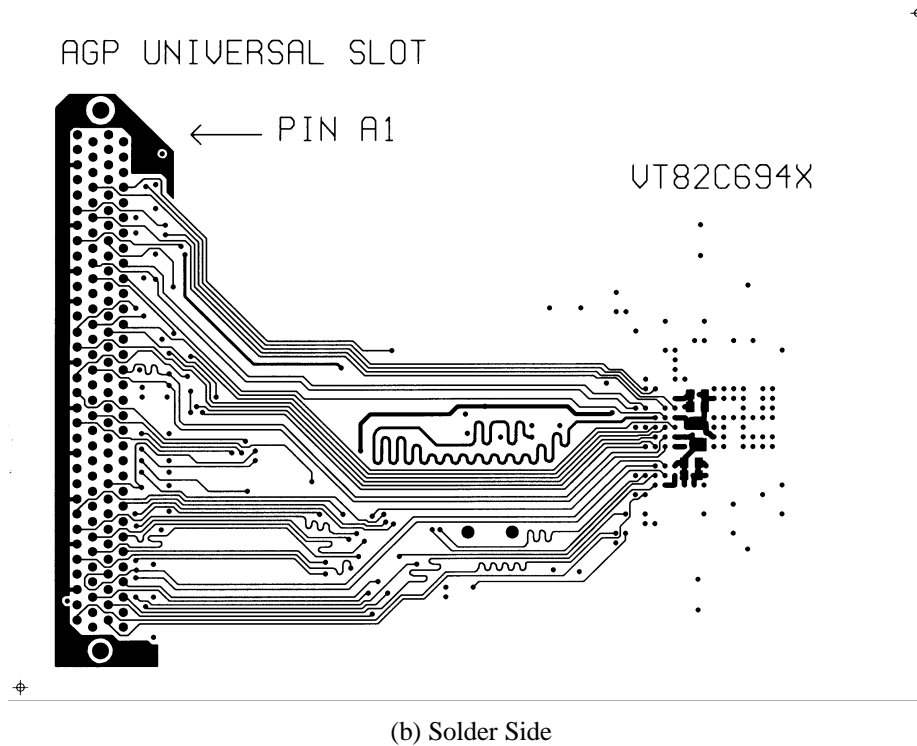

Figure 2-50. AGP 4X Interface Layout Example
It is strongly recommended to maintain the trace length of all AGP (especially Data and Strobe) signals less than 4 inches. It is always best to reduce line mismatch to add to the timing margin. In other words, a balanced topology can match trace lengths within the groups to minimize skew. To minimize signal crosstalk, wider spacing is recommended wherever possible between traces. A layout example of the AGP interface between the VT82C694X and the AGP Slot is shown in Figure 2-50. Optimized layout and routing recommendations are listed below:
1. Most Decoupling capacitors are placed on the left-hand side of the AGP slot in Figure 2-50 (a).
2. Discrete pull-up resistors are located very near their associated pins for the short stub limitation in Figure 2-50 (a).
4. The serpentine bold trace near the VT82C694X chip represents the AGP clock feedback (GCLKI) signal in Figure 2-50 (b).
5. There are five SMD ceramic capacitors located in the inner AGP quadrant of BGA area in Figure 2-50 (b).